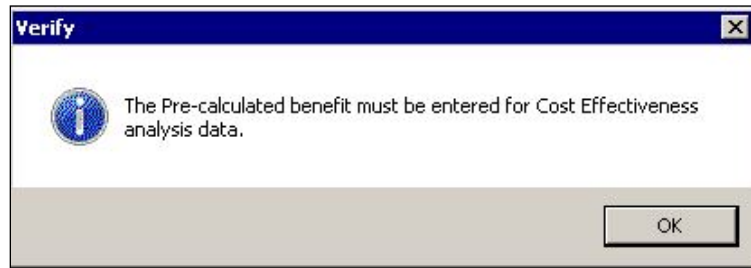

Figure 6-120: Pre-Calculated Benefit Missing Warning Message
2. If any required fields are empty, error messages will be displayed indicating the missing field and the Application Development tab where you can enter the missing information (Figure 6-120).